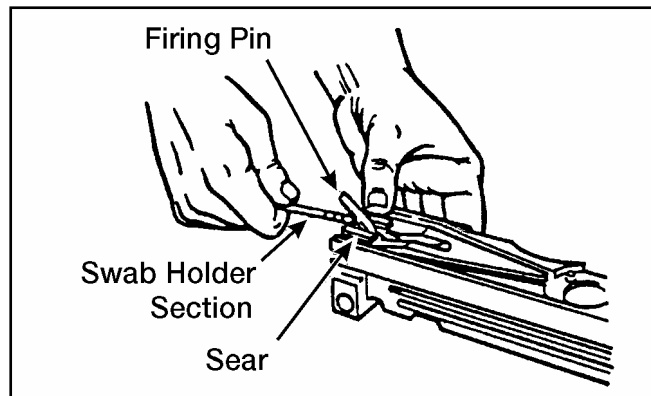

Figure 071-022-0001-36. Testing of the firing pin release
(12) Test firing pin release. Trip the firing pin by depressing the top of the sear with a section of a swab-holder. If doing so makes a sharp metallic sound, then the firing pin spring is in good condition (figure 071-022-0001-36).